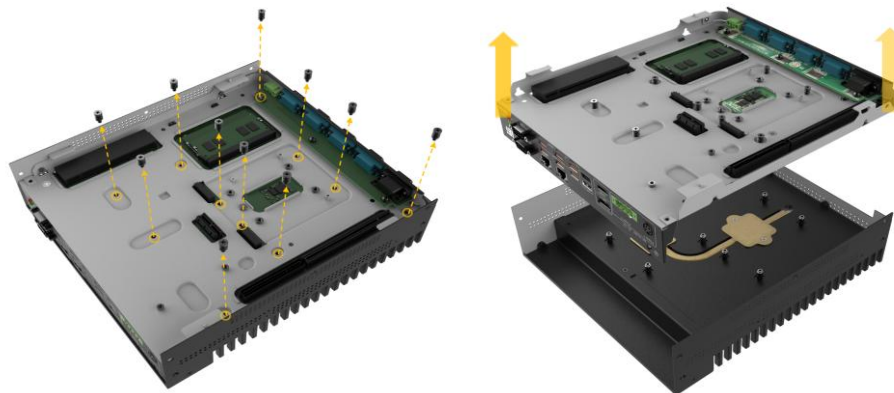

Figure 3-2: Motherboard Removal
Step 1: Remove the 11 spring screws on the motherboard, and then take out the motherboard (including the motherboard holder) (See Figure 3-2).